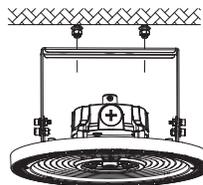
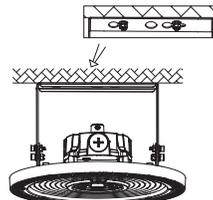

Figure 5
Figure 6
- Step 3. Align the bracket hole with screw hole (Figure 5), and push the fixture to one side (Figure 6) and fix it.